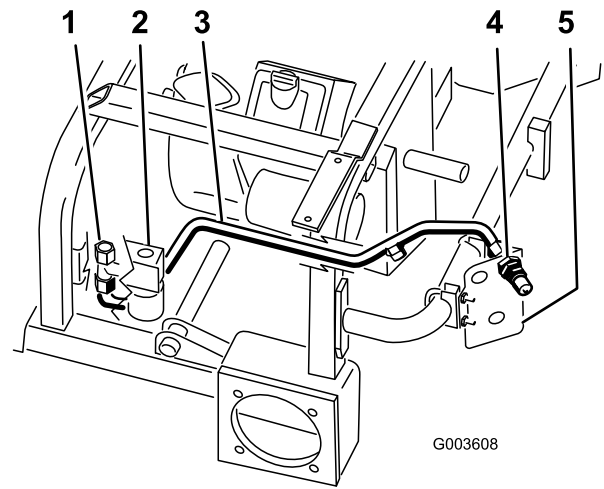

Figure 15
- Position hydraulic line number 1 into the machine as shown in Figure 15.
- Install hydraulic line number 1 to the tee fitting assembled to the side of the valve (Figure 15).
- Install the hydraulic line number 1 to the upper male coupler (Figure 15).